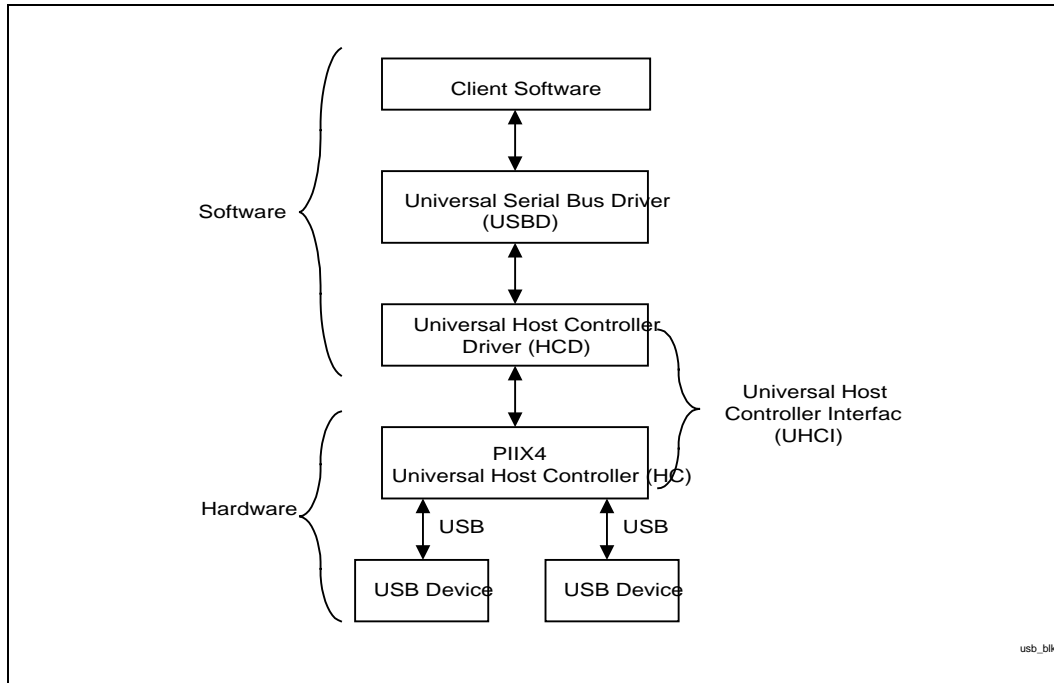

Figure 9. USB System Conceptual View
PIIX4E contains a USB Host Controller (HC). The Host Controller includes the root hub with two USB ports. This permits connection of two USB peripheral devices directly to PIIX4E without an external hub. If more devices are required, an external hub can be connected to either of the built-in ports. The USB's PCI configuration registers are located in function 2, PCI configuration space. The PIIX4E Host Controller completely supports the standard Universal Host Controller Interface (UHCI) and thus, takes advantage of the standard software drivers written to be compatible with UHCI. Figure 9 shows a conceptual view of a USB system. UHCI consists of two parts—Host Controller Driver (HCD) and Host Controller (HC). The Host Controller interfaces to the USB system software in the host via the HCD. The HCD software manages the Host Controller operation and is responsible for scheduling the traffic on USB by posting and maintaining transactions in system memory. HCD is part of the system software and is typically provided by the operating system vendor. HCD provides the software layer between the PIIX4E's Host Controller and the USB software layer (also located in the operating system). The UHCI's HCD software interprets requests from the USB and builds Frame List, Transfer Descriptor, Queue Head, and data buffer data structures for the Host Controller. The data structures are built in system memory and contain all necessary information to provide end-to-end communication between client software in the host and devices on the USB.